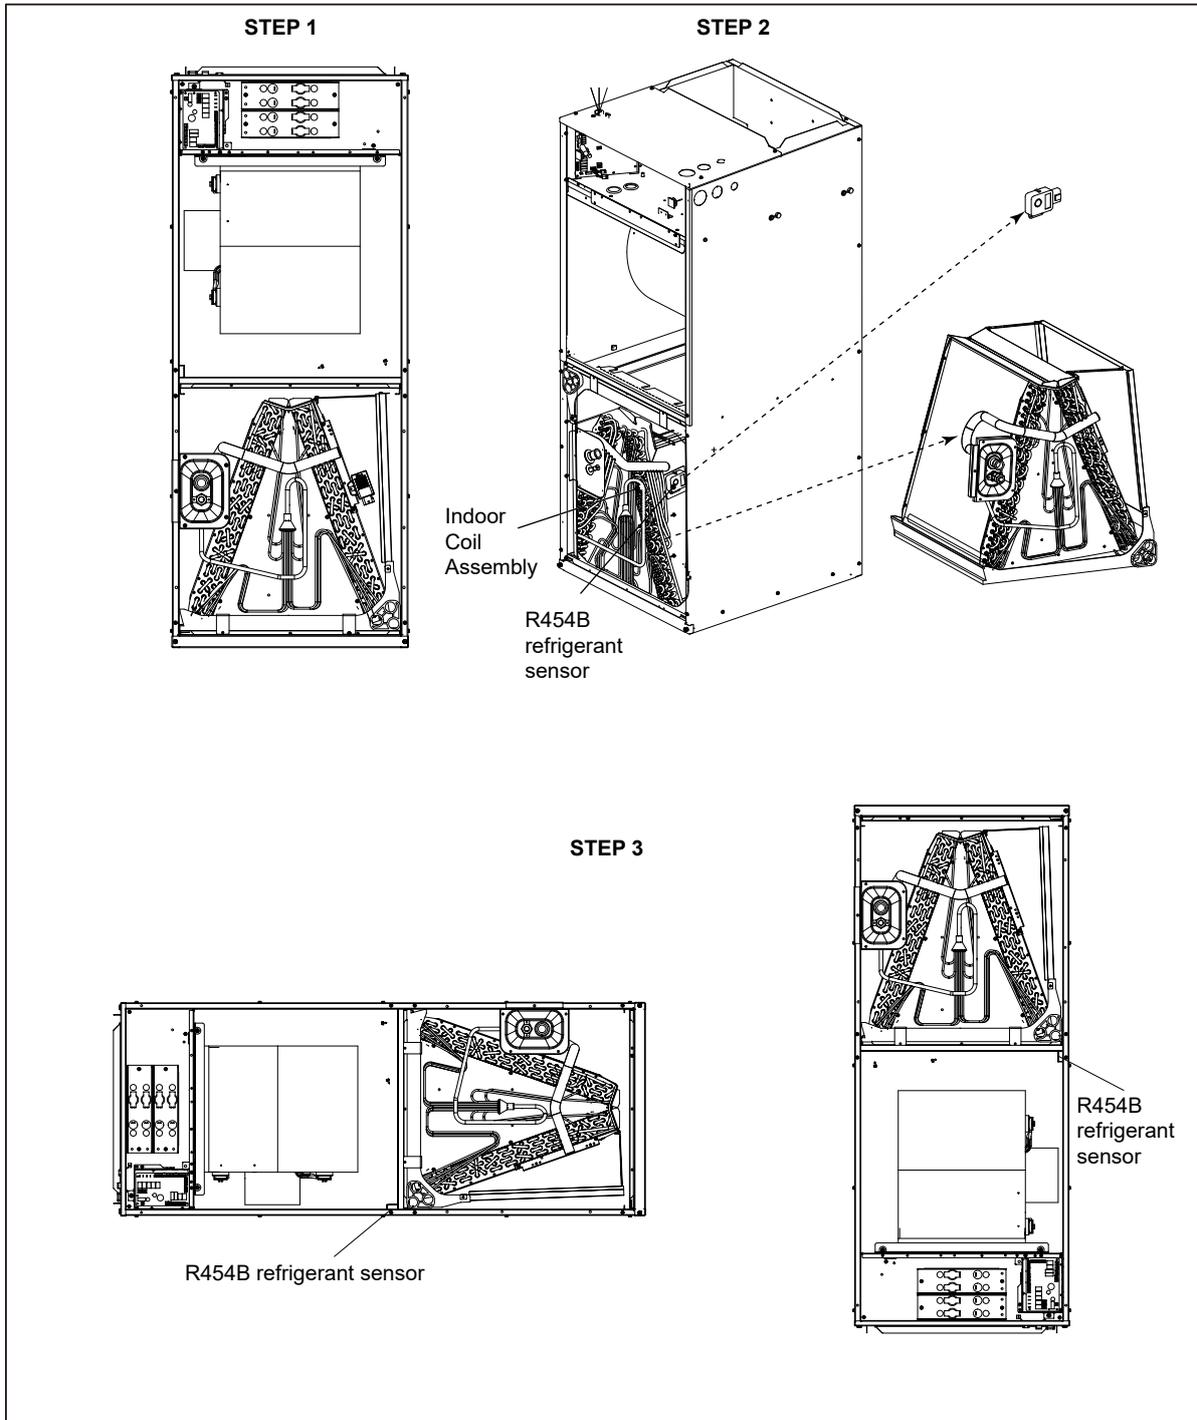

Fig.3-10 Vertical Downflow & Horizontal Left Applications Conversion
4. Reinstall the refrigerant sensor at the location shown in Fig.3-10.
A vertical upflow unit may be converted to horizontal left by removing the indoor coil assembly and the refrigerant leak detection sensor. Reinstall the indoor coil and the refrigerant sensor for left hand air supply. See Fig.3-10.
- Reinstall the indoor coil 180° from original position. Ensure the retaining channel is fully engaged with the coil rail. See Fig.3-10 and 3-11.
2. Pull out the coil with refrigerant sensor (Figure 3-10, Step 2).
3. Unscrew and remove the refrigerant sensor and housing from the evaporator coil. Then place and screw in the refrigerant sensor housing at the sensor position shown in the Figure 3-10, Step 3).
4. Replace the coil in the correct orientation and secure in place. Plug the refrigerant sensor wire back to the controlboard(Figure 3-10, Step 3).